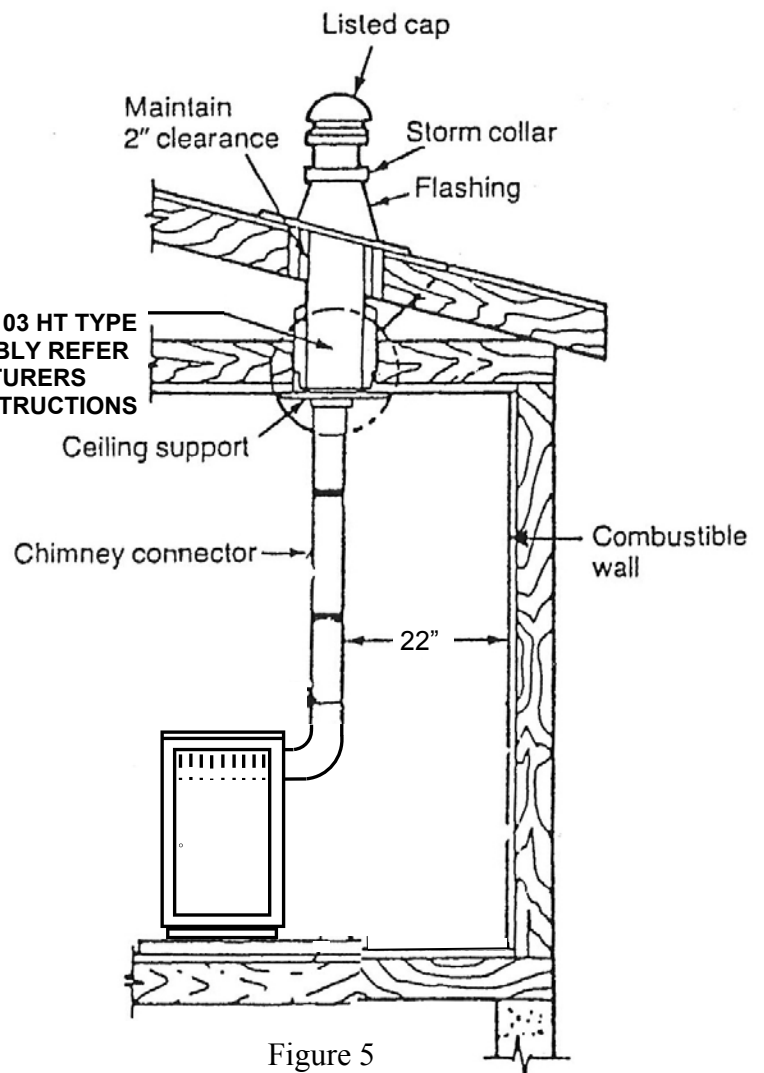

Figure 5
2. Rear exit to vertical ceiling exit. (See figure 5, Page 8).
4. Now measure from upper elbow’s crimped end to blunt end of lower elbow. Cut and place pipe between elbows. Connect each section so the crimped end faces downward. (See Page 9, Figure 5).
5. Secure each section to each other using at least three (3) sheet metal screws or rivets, using furnace cement to seal joints..